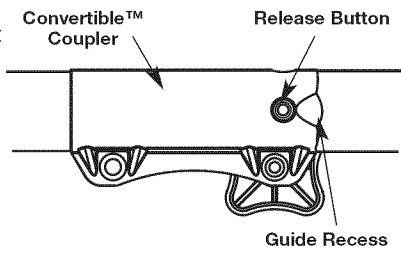

Fig. 3
**NOTE:** Aligning the release button with the guide recess will help installation (Fig. 3).
2. Press and hold the release button (Fig. 3).